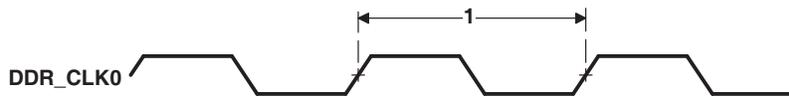

Figure 6-25. DDR2 Memory Controller Clock Timing
Table 6-37. Switching Characteristics Over Recommended Operating Conditions for DDR2 Memory Controller^{(1) (2)}(see Figure 6-25)